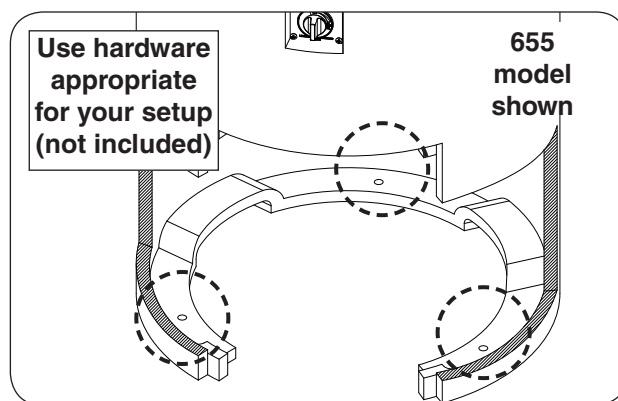

Fig. 16-3 Mount unit to floor (if applicable)
1. Using appropriate mounting hardware for the floor material/construction, secure the unit into the floor. The interior of the unit has three $\frac{1}{2}$ " holes that will allow for the unit to be fastened to the floor. See Fig. 16-3.